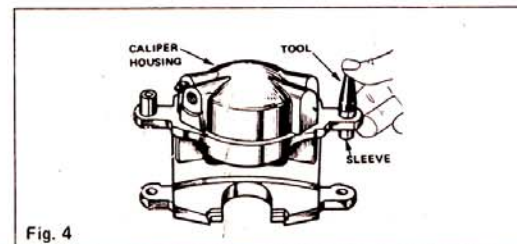

Fig. 4
7. Remove sleeves from inboard ears of caliper as shown in Fig. 4.